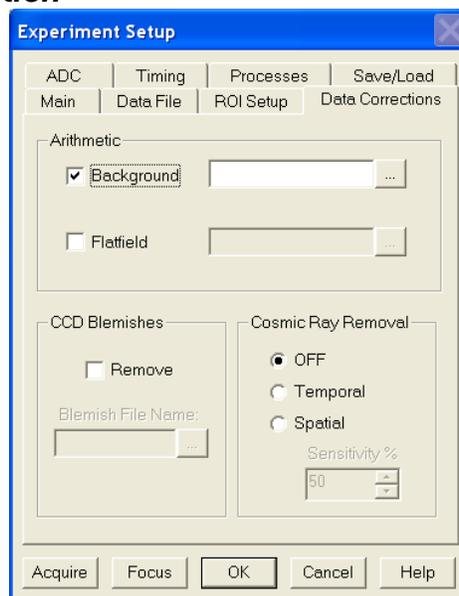

Figure 92. Data Corrections tab
To acquire a background with the shutter open, or if the Acquire Background feature is too restrictive in some other way, a background file can be collected as a normal data file. Once the file is collected and stored, enter the filename in the **Background Subtract** filename box on the **Experiment Setup Data Corrections** tab (see Figure 92).
2. Click on the **Data Corrections** tab. The Data Corrections tab will be selected (Figure 92).
If the Acquire Flatfield feature is found to be too limiting in some way, a flatfield file can be collected as a normal data file. Once the file is collected, enter the filename in the **Flatfield Correction** filename box on the **Experiment Setup|Data Corrections** tab (Figure 92).
2. Click on the **Data Corrections** tab (Figure 92).